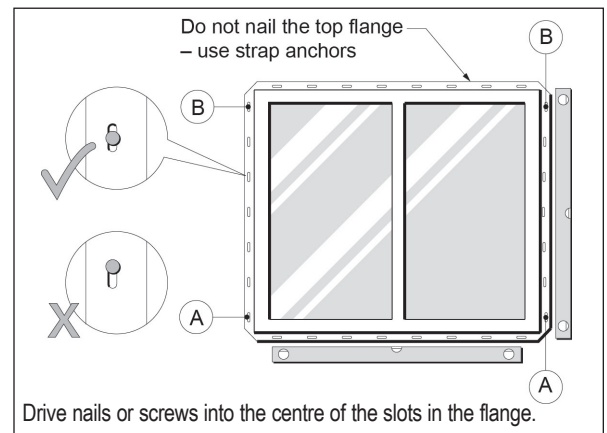

Figure 1-6. Where to fasten the flanges — exterior view
- 2.5 Fasten bottom corners of flange to the wall with 2" galvanized nails or 1 1/2" #10 tapping screws (See fig. 1-6 (A)).
- 2.6 **Plumb the frame jambs with a level** and fasten the two top corners of the flange to the wall (See fig. 1-6 (B)).